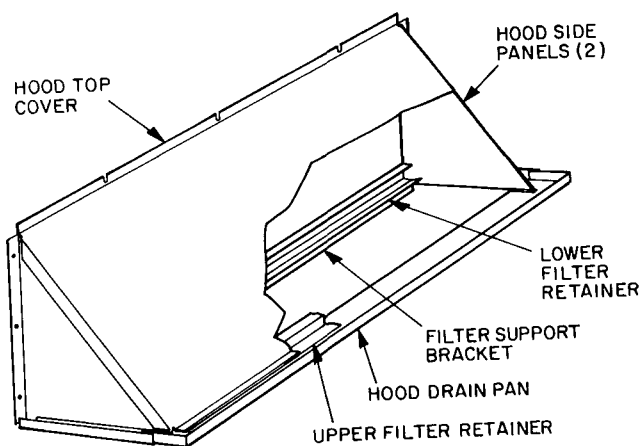

Fig. 22 — Outdoor-Air Hood Details
1. Assemble hood top cover, side panels, upper filter retainer, and drain pan (see Fig. 22).
2. Secure lower filter retainer and support bracket to unit as shown in Fig. 22.